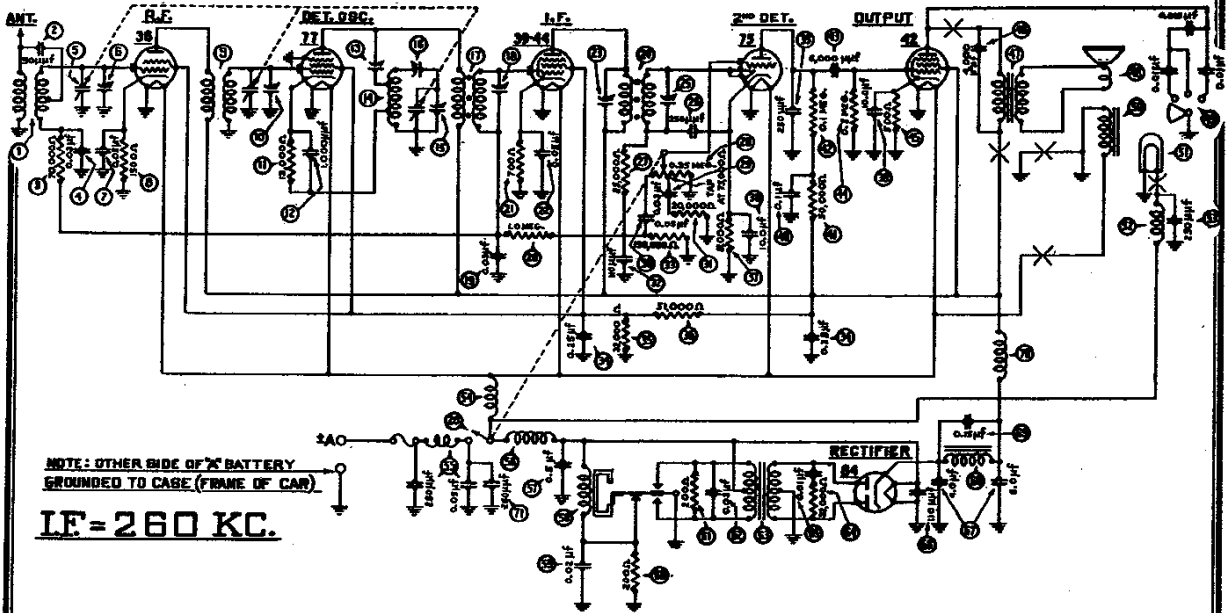

FIGURE 5
1. Connect the terminal end of the "A" lead to the switch terminal CA-RAD. Refer to Figure 5, showing the back of the instrument switch.